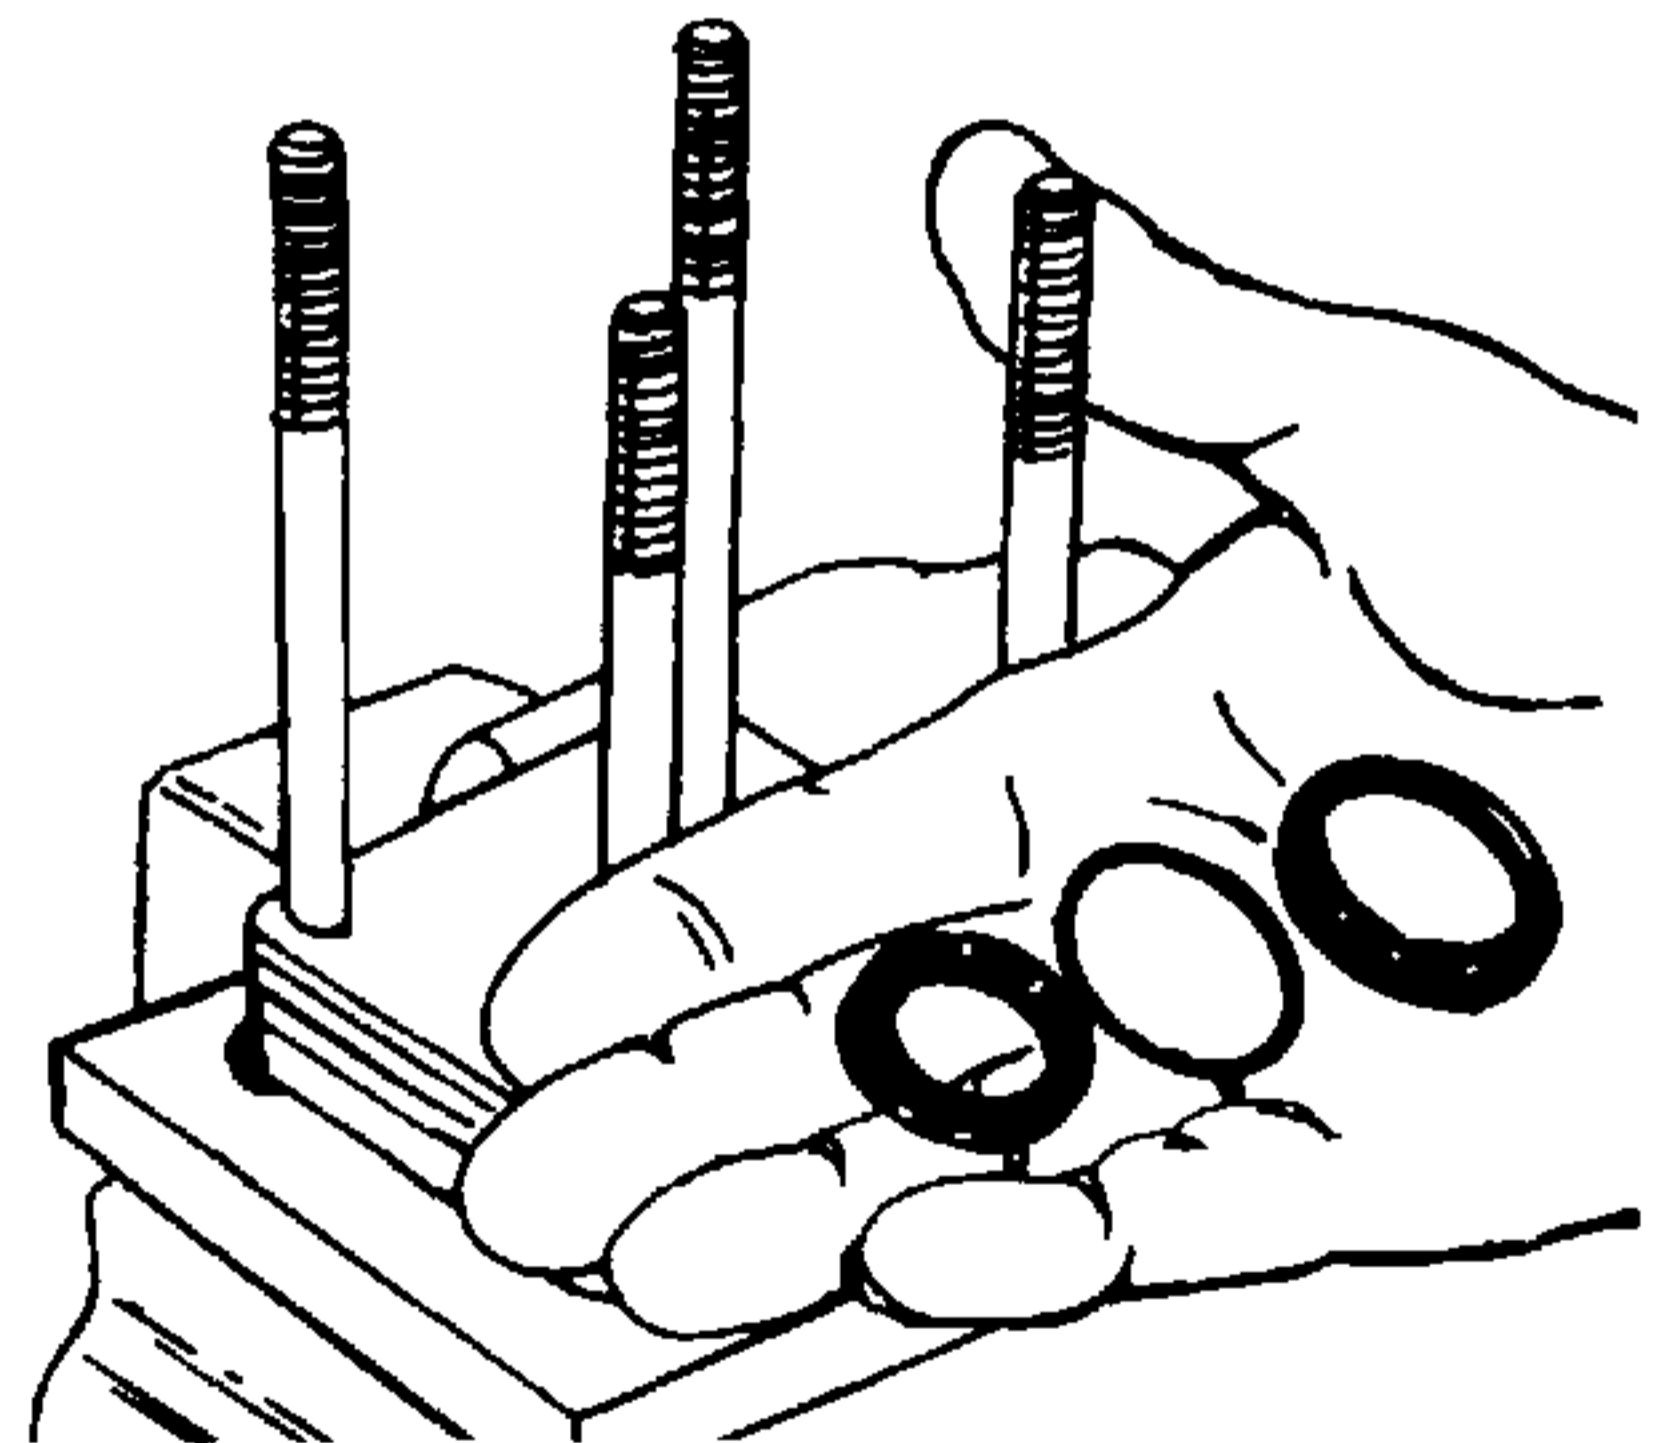

Figure 4-53. Assembling Face Seal, Back-Up Ring and Spacer.
- Assemble seal back-up ring (28, Figure 4-1) and face seal (27) onto the seal spacer (29). See Figure 4-53.